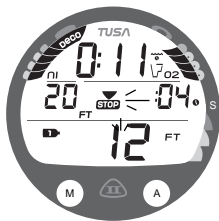

Fig. 61 - CV MAIN
**CV Main**, information includes (Fig. 61) -